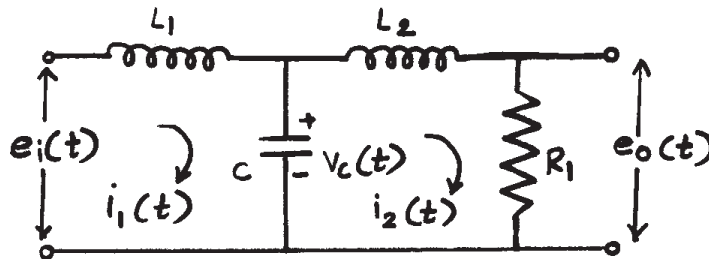

Fig 1(b)
- b) Obtain the state model of the given electrical network in the standard form. Choose $i_1(t)$, $i_2(t)$ and $v_c(t)$ as state variables and $e_i(t)$ as input variable. Also choose $e_o(t)$ as output variable. (Refer fig 1(b)). [8]